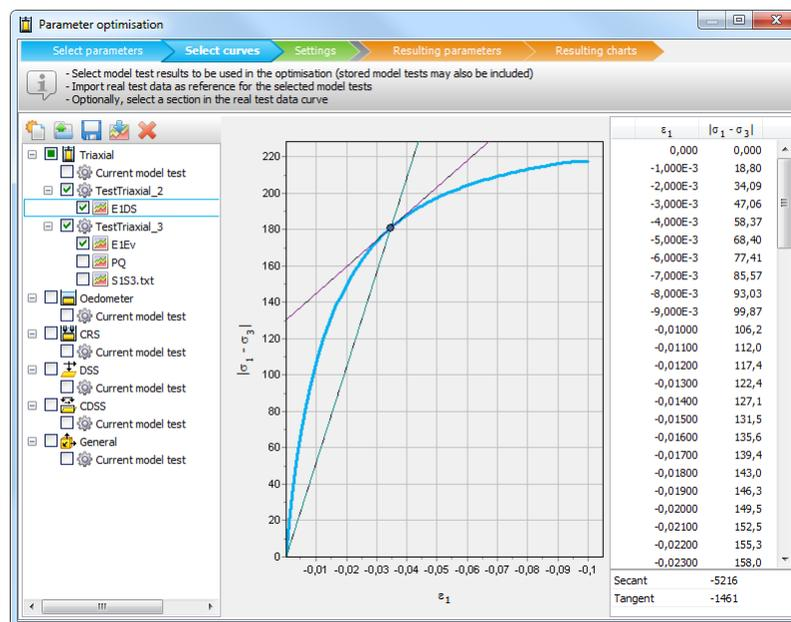

Figure 195: Importing data from SoilTest
- If the test data together with the test conditions are stored in the format of a PLAXIS soil test project (<test>.vlt), the *Open file* option should be used. After selection of a valid PLAXIS soil test project, the test conditions are listed under the corresponding test type in the tree, and the available test data curves are listed under the test conditions (Figure 195: Importing data from SoilTest (on page 280)). This option should typically be used to fit current model parameters to synthetic data previously produced in the PLAXIS soil test facility and stored in <test>.vlt format.